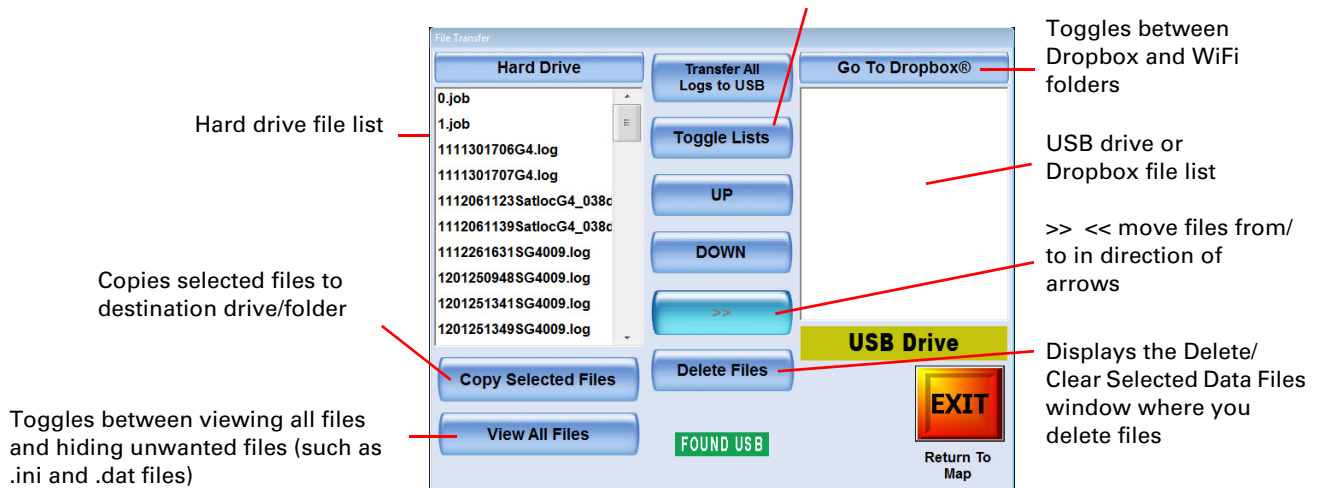

Figure 4-4: File Transfer window
You use the File Transfer window (Figure 4-4) to perform file transfers.
1. In the data panel press **Transfer Files**. The File Transfer window appears (see Figure 4-4 on page 58).